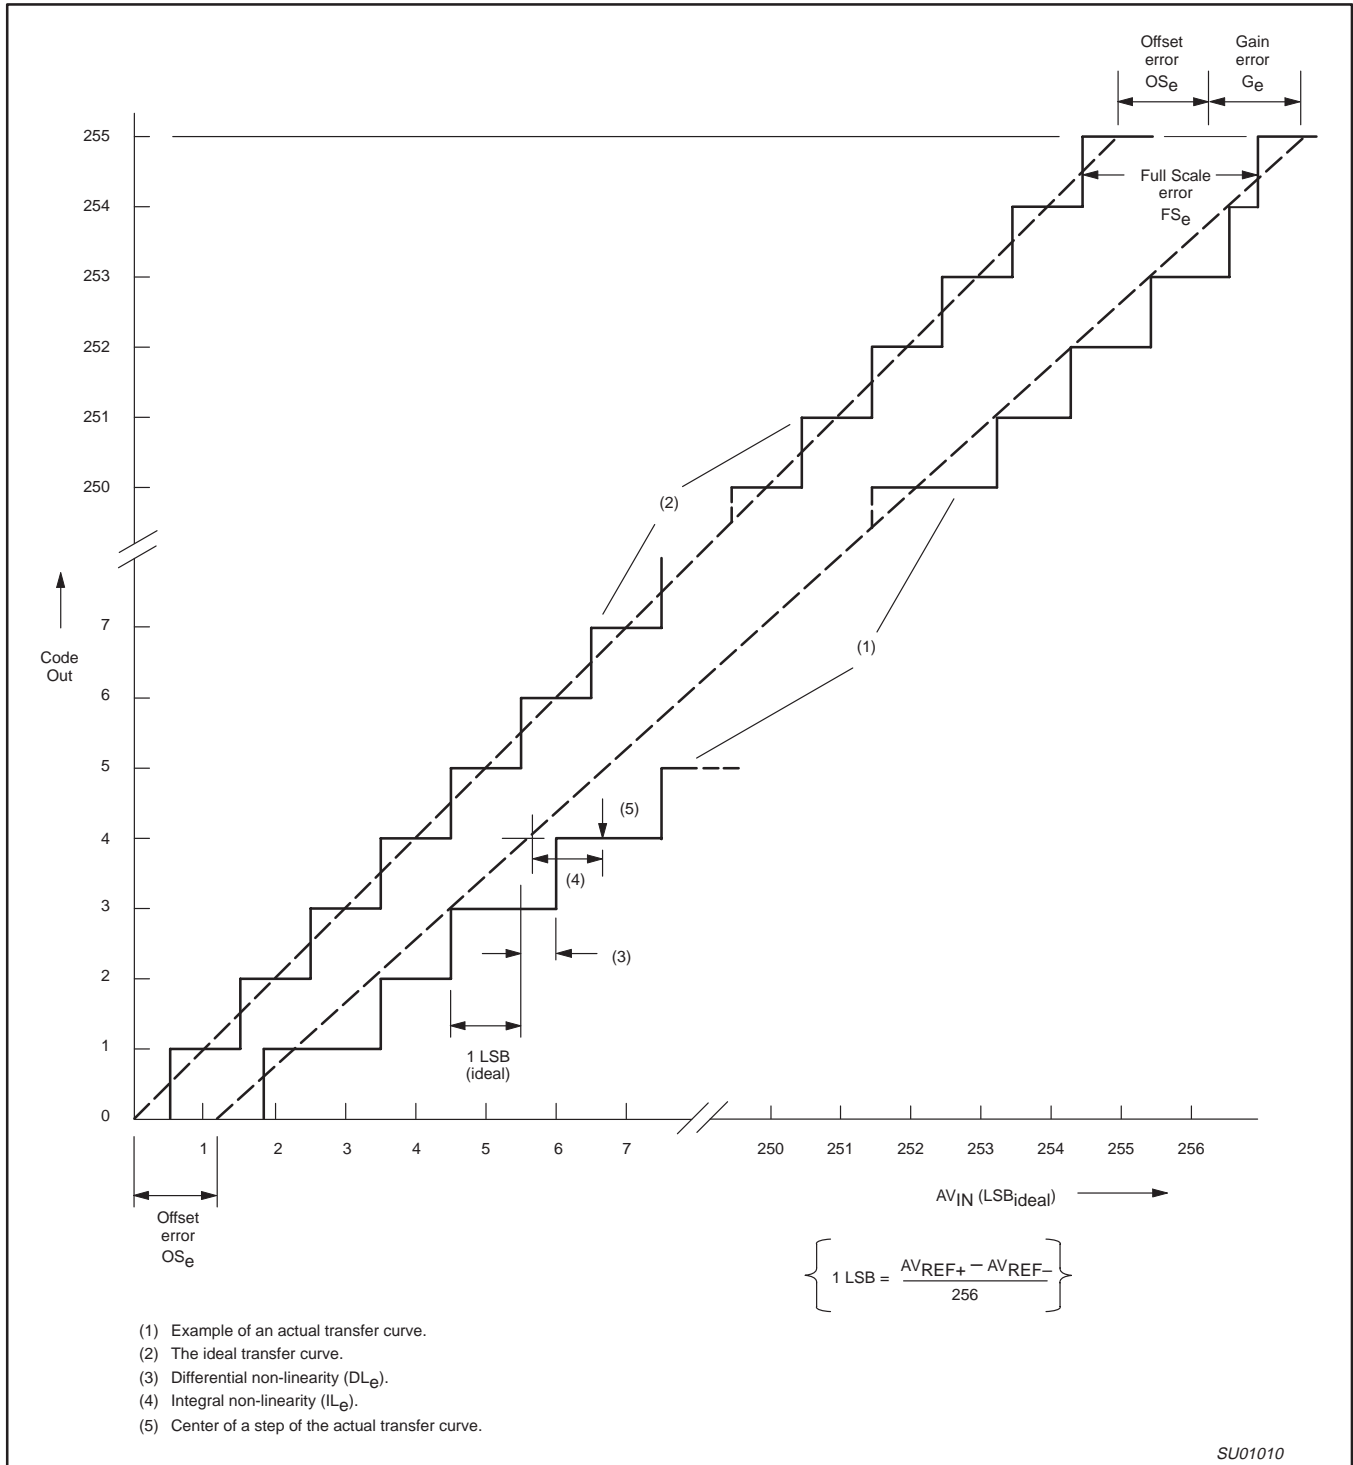

Figure 25. ADC Conversion Characteristic
- The differential non-linearity (DL_e) is the difference between the actual step width and the ideal step width. See Figure 25.
- The integral non-linearity (IL_e) is the peak difference between the center of the steps of the actual and the ideal transfer curve after appropriate adjustment of gain and offset errors. See Figure 25.
- The offset error (OS_e) is the absolute difference between the straight line which fits the actual transfer curve (after removing gain error), and the straight line which fits the ideal transfer curve. See Figure 25.
- The gain error (G_e) is the relative difference in percent between the straight line fitting the actual transfer curve (after removing offset error), and the straight line which fits the ideal transfer curve. Gain error is constant at every point on the transfer curve. See Figure 25.